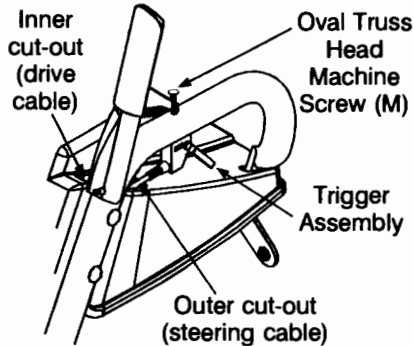

FIGURE 16
- Feed the trigger cable up through outer cut-out in the handle panel as shown in Figure 16.
- Position trigger assemblies on the underside of the handles and secure with oval truss head machine screws (M). See Figure 16.
The trigger levers are located on the underside of the handles and used to steer your snowthrower. See Figure 16. To turn right, squeeze the right trigger lever and guide the snowthrower to the right. Squeeze and guide the left lever to turn left. These controls should be used while operating your snowthrower in open areas until you become familiar with their operation.